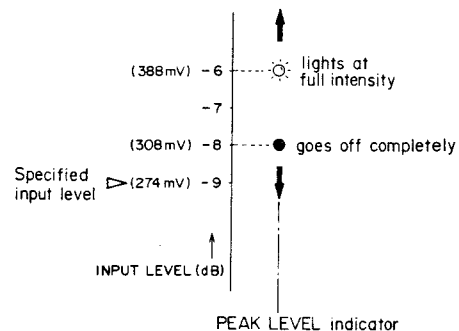

Fig. 6-10 LED Peak Level Indicator Setting
12. Place DOLBY NR IN-OUT-IN/MPX switch to OUT position, adjust VR108 so that the PEAK level indicator lights as shown in Fig. 6-10, when a 400 Hz signal is applied at required level to the left channel LINE IN jack. Keep the right channel LINE IN jack disconnected from the AF oscillator.